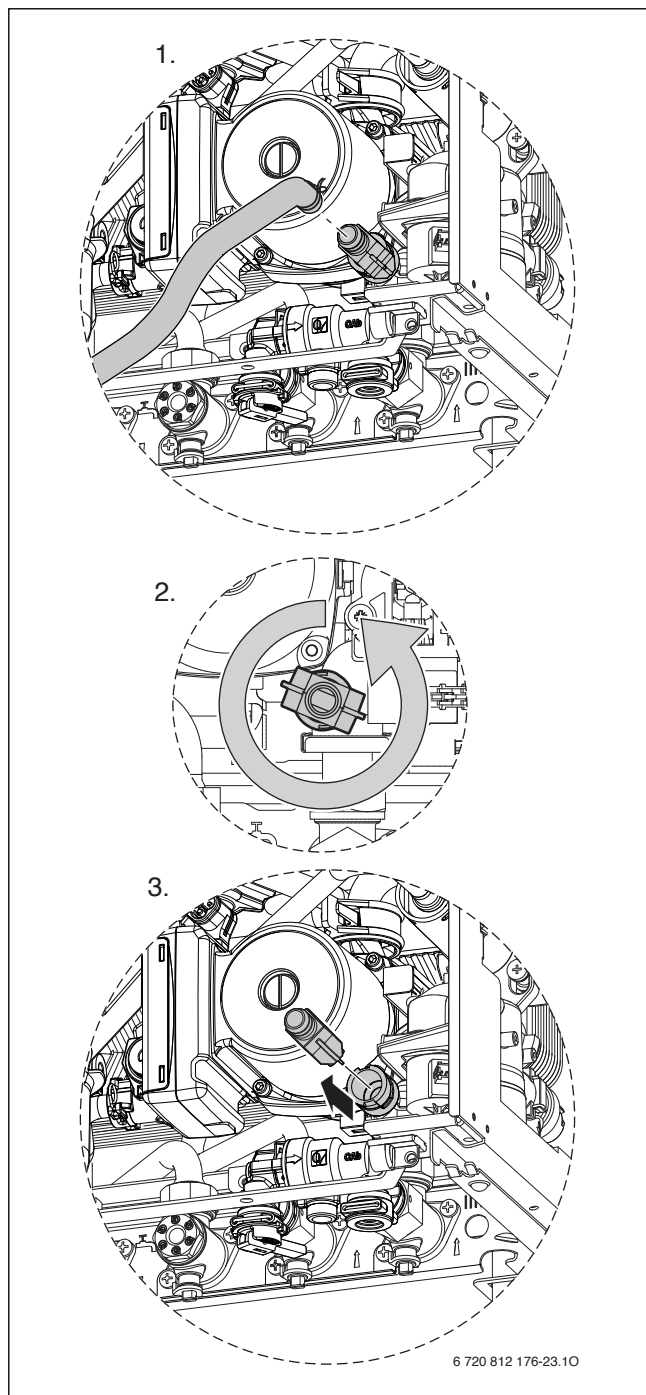

Fig. 95 Drain tap removal
- Disconnect the drain pipe from the drain tap (see e. g. step 1 in Fig. 95).